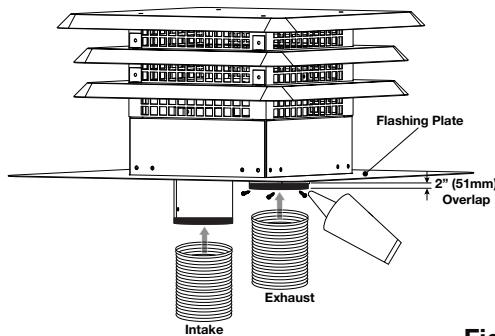

Fig. 2-1
- OUTSIDE:** Slip the one end of a liner a minimum of 2" (51mm) over the sleeve of the air terminal. Secure using 3 screws. Then seal the joint and screw heads with high temperature sealant. Repeat with the other liner (**Fig. 2-1**)